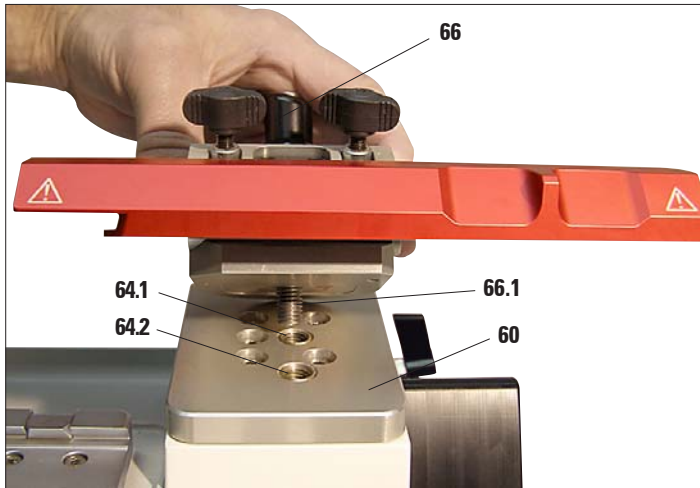

Fig. 11
- Press the clamping lever (66) of the knife holder (67) downwards and with the lower part of the thread (66.1) turn in one of the two bores (64.1) or (64.2), Fig. 11) the intermediate plate (60).